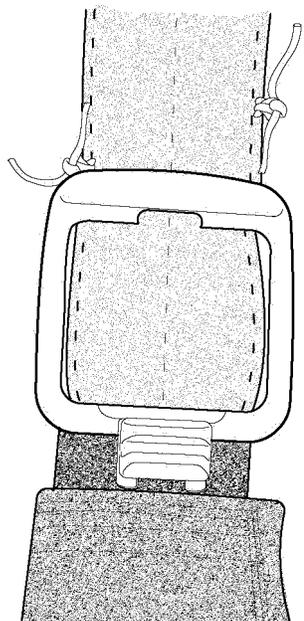

Figure 3. Cover and Latch Arm Removed
- g. Remove the fitting/harness from vice (Figure 3).